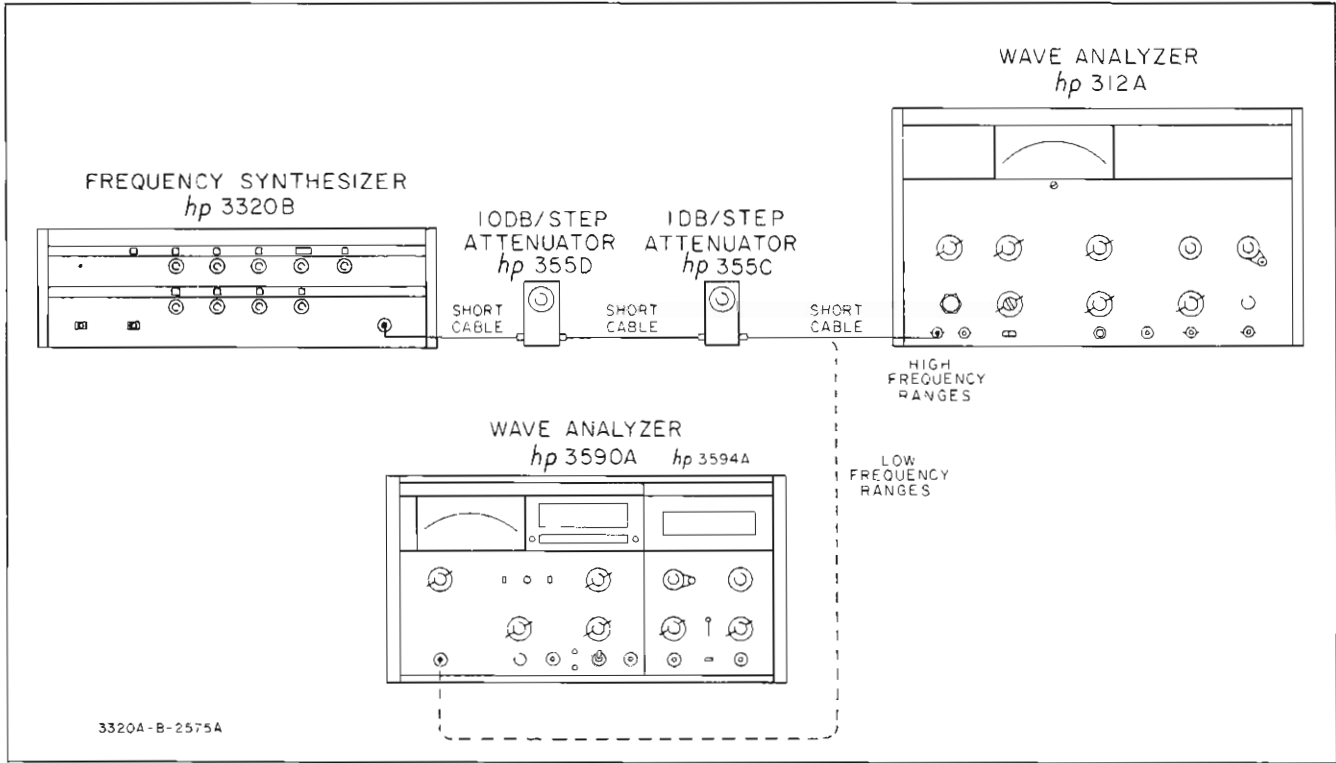

Figure 5-1. Harmonic Distortion.
- a. Connect the equipment as shown in Figure 5-1.